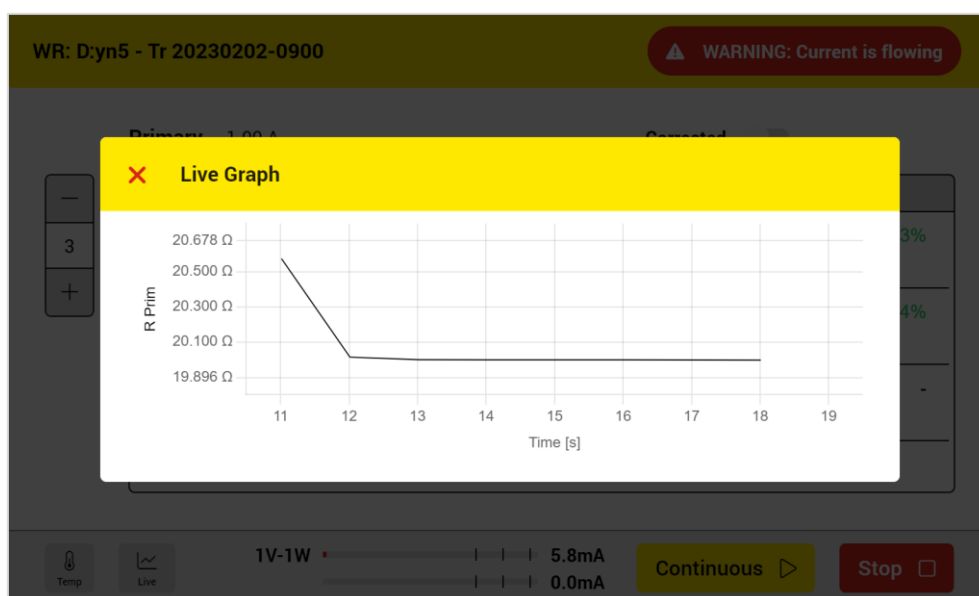

Figure 49: Winding resistance live graph
- 3 Here you can open the live graph to see the live resistance curve over the time (Figure 49)
Figure 49 is the live graph which shows the live resistance curve over the time.